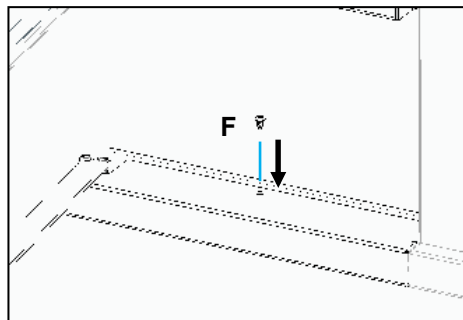

Figure 43 - Fixation of the lower cap of the Olive
l) To finalize, mount the bottom cap of the equipment as shown in Figure 43, open the door and fit the lower cap piece on the base of the equipment, matching the drilling of the part with that of the equipment and then assemble it with a F screw (DIN 7981 4,2x13) or screw (ISO 3780 M5x12).